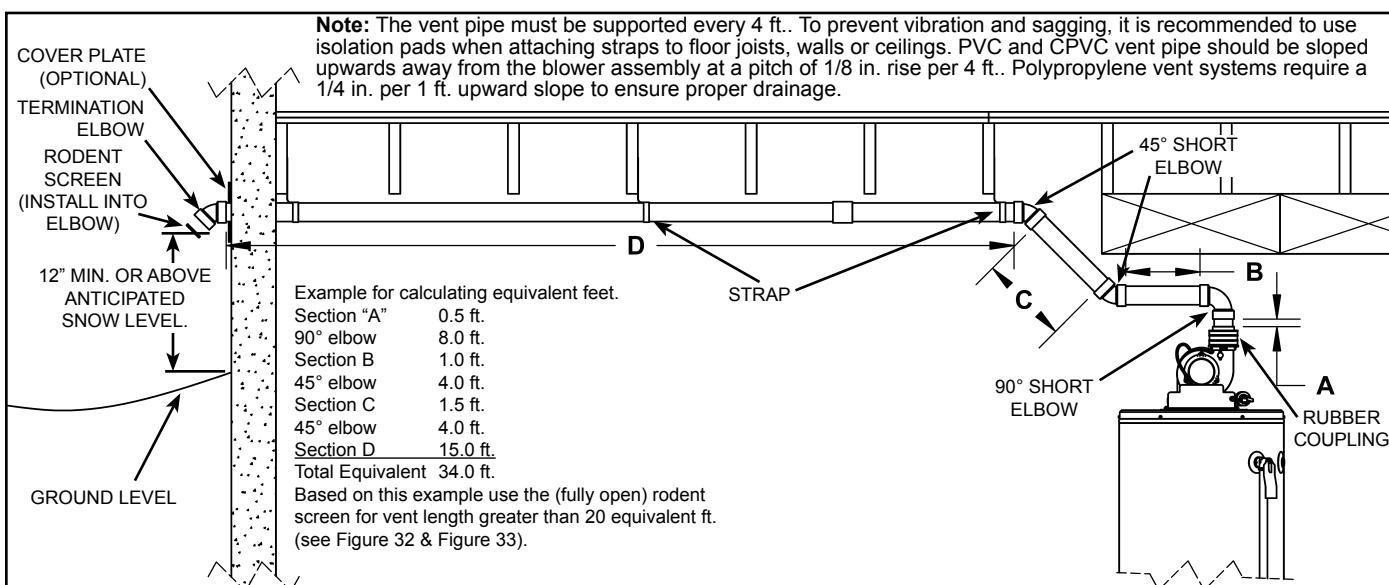
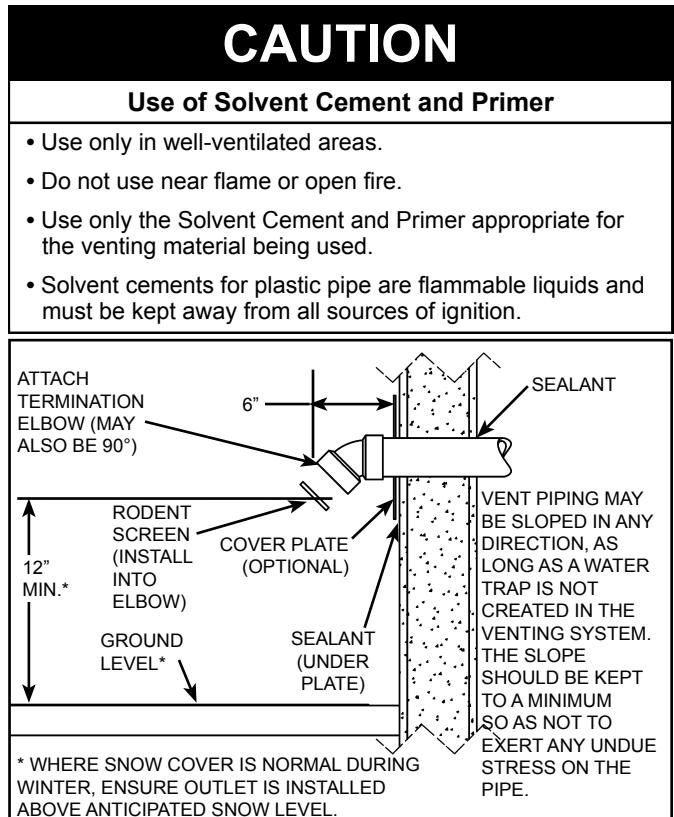

Figure 34.
Figure 35.
This heater is designed to exhaust the products of combustion (flue gases) to the outdoors using a sealed piping system. Table 2 lists the allowable vent materials and sizing information. Figure 34 shows the general venting layout while Figure 38 through Figure 42 show various end termination details and clearances. Connection of the venting piping to the blower is shown in Figure 38 through Figure 42.
- Refer to Figure 34 and Table 2 for vent pipe materials and sizing. Examples of the vent terminations are shown in Figure 35 & Figure 36. If the installation requires a vent riser, suitable drainage must be provided to ensure condensation does not accumulate. Termination through a roof is shown Figure 37.
Installed in the vent termination elbow, the vent screen is required to keep foreign objects, rodents and small birds from entering the venting system. These screens have been sized to ensure maximum energy efficiency of the vent system based on the "equivalent length" of the vent piping. CHOOSE ONLY the ONE SCREEN THAT MATCHES YOUR VENTING CONFIGURATION (see Figure 32 & Figure 33). How to determine the "equivalent length" is shown in Figure 34 and in Table 2.
5. Calculate “Equivalent Vent Length” before starting. Do not exceed the values shown in Table 2. An example of how this length is determined is shown in Figure 34. The value from your calculations should also be used to determine which rodent screen to install into the vent termination elbow.
9. Insert the vent piping through this hole and secure into position. Connect the vent pipe to the end termination elbow as shown in Figure 35 through Figure 37.